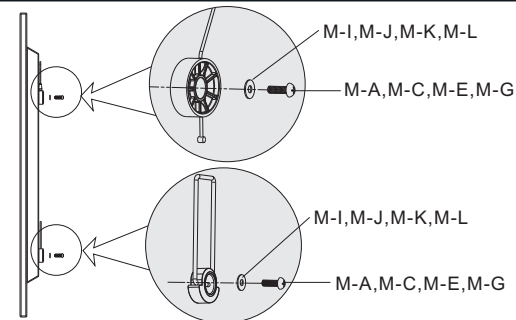
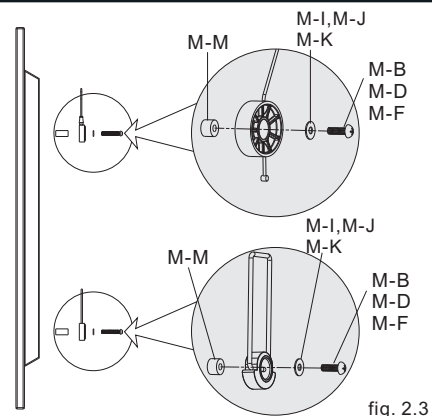
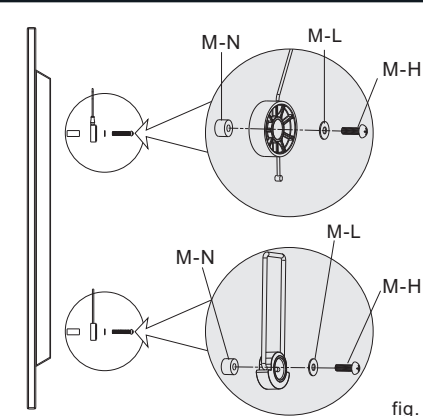

fig. 2.2
fig. 2.3
fig. 2.4
- Attach the adapter brackets and supporting spacer to the back of the screen using the appropriate combination of screws, washers, and spacers, as shown in fig.2.2 , fig.2.3 and fig.2.4.